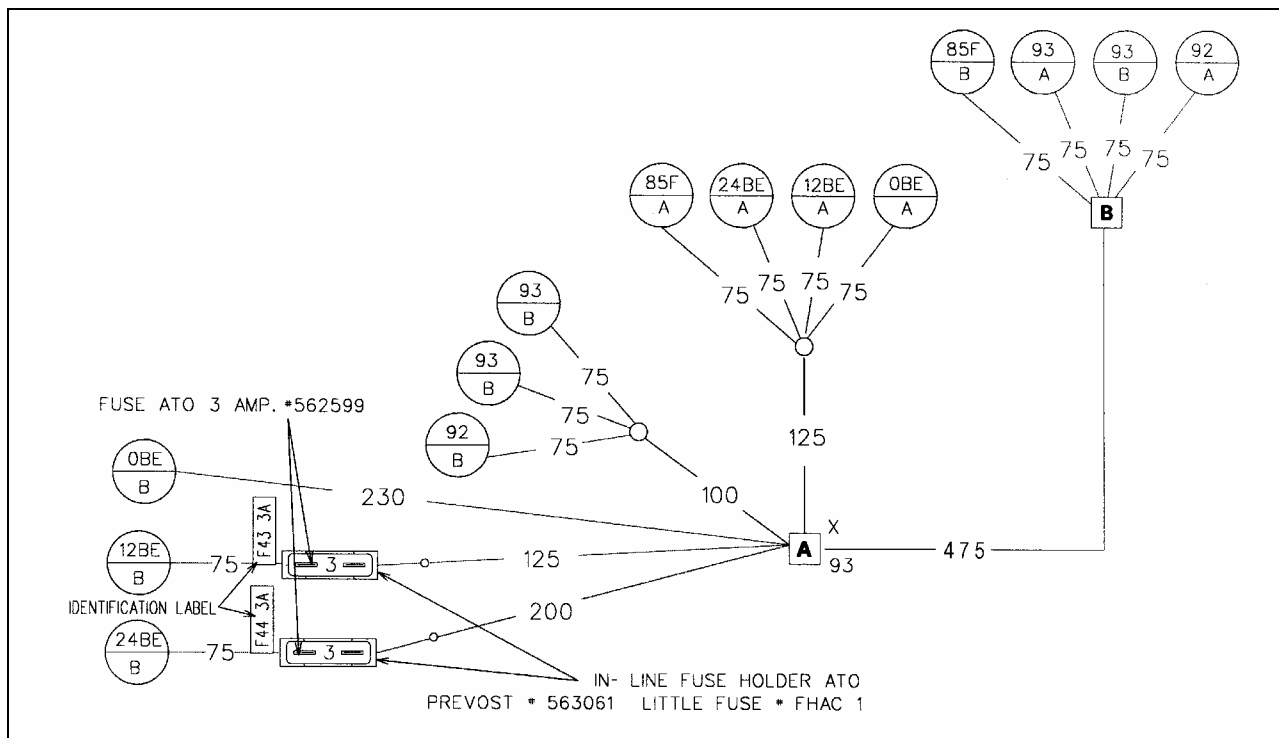

FIGURE 1: EXTENSION CABLE #065419
6. Connect the extension cable (figure 1):